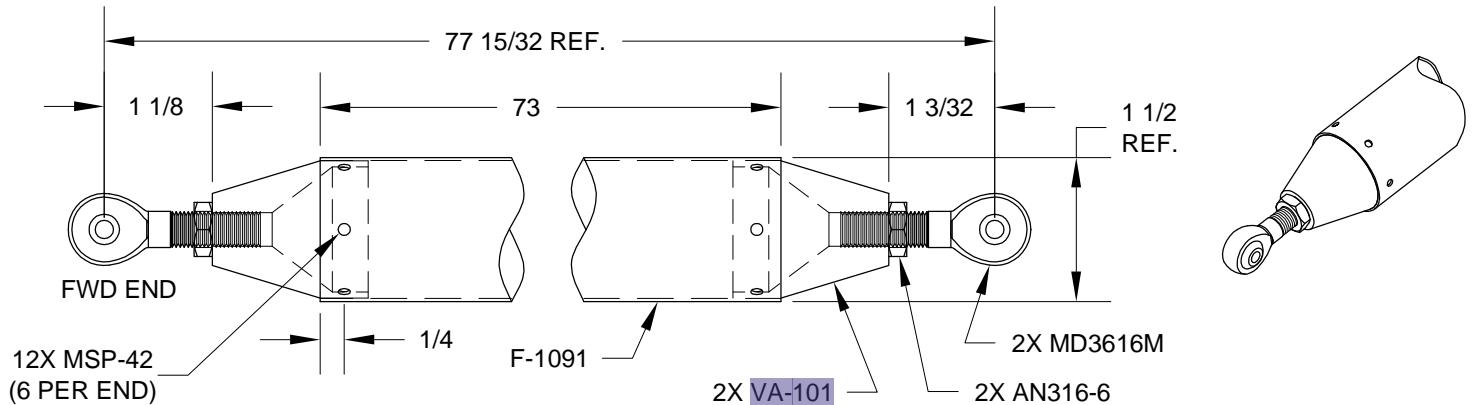

FIGURE 2: PUSHROD ASSEMBLY
Step 3: Cut the F-1091 Pushrod to length from AT6-035 X 1 1/2 aluminum tube as shown in Figure 2.
Reinstall the threaded insert and rivet as called out in Figure 2. Thread the jam nuts onto the rod end bearing shanks then thread the rod end bearings into both ends of the pushrod. Leave the jam nuts finger tight for now.